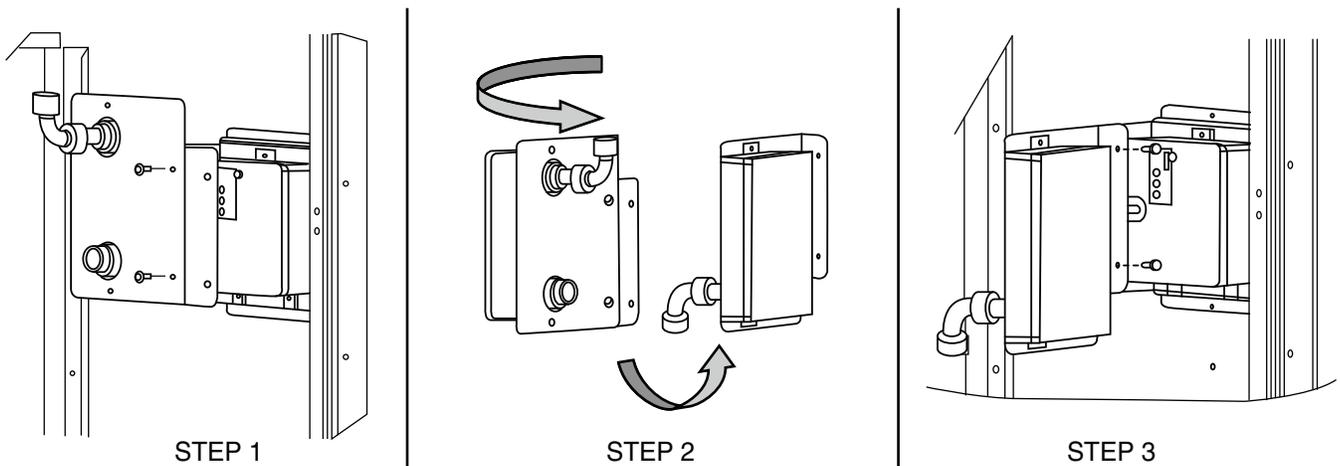

Fig. 57 — Completing Installation of Return Air Smoke Sensor
1. Unscrew the two screws holding the return air smoke detector assembly. See Fig. 57, Step 1. Save the screws.
2. Turn the assembly 90 degrees and then rotate end to end. Make sure that the elbow fitting is pointing down. See Fig. 57, Step 2.
3. Screw the sensor and detector plate into its operating position using screws from Step 1. See Fig. 57, Step 3.